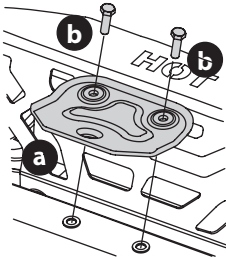

Figure 1
1. Locate Hitch (a) and install on the rear of the frame using the two hex washer screws (b) provided (Figure 1).